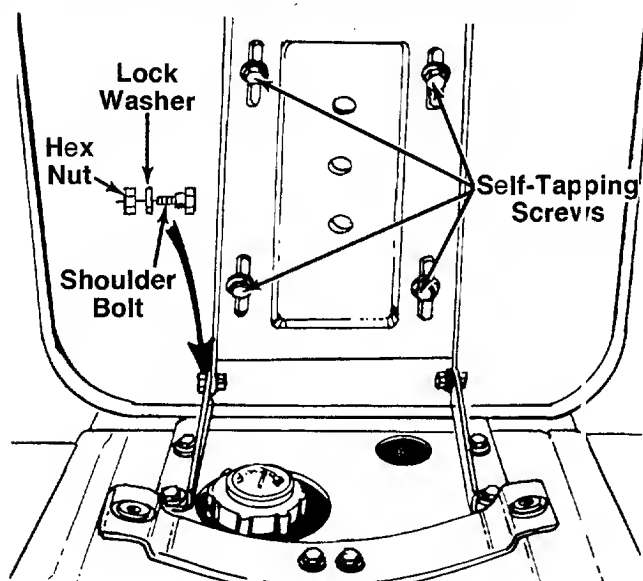

FIGURE 3B.—Models 803, 808, 813, 818, 823 and 828
- Models 803, 808, 813, 818, 823 and 828:** Place the seat in position against the seat brackets. Secure each side of seat with shoulder bolts, lock washer and hex nut. Crown side of washers should be against the head of the bolt and the nut. See figure 3B.